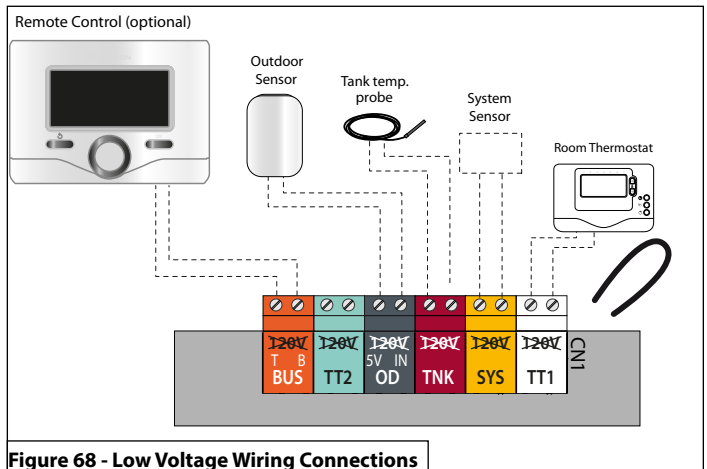

Figure 68 - Low Voltage Wiring Connections
3. Connect the room thermostat wires to the terminals indicated in Table 18 and Figure 68.